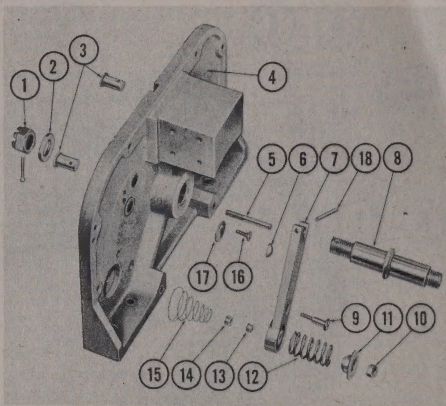

Figure 336—Clutch and Differential Housing
(See figure 336.)—The pull rods on these brake plunger assemblies are held to the brake arms (7) by the lock nuts (10) and adjusting nuts (11), which must first be removed. Remove the brake pull rod plain stop collar (14) and the bevel collar (13), which are located on the pull rods under the brake arms. These collars are carefully fitted for this particular servo unit and should be marked in removal, or placed in a marked
(a) (See figure 336.)—If the brake solenoids have not been removed, remove the two brake tension adjusting nut lock nuts (10), the two knurled brake tension adjusting nuts (11), and the brake tension spring (12) from the brake solenoid plunger pull rods.
(d) (See figure 336.)—Remove the clutch and differential housing end plate assembly from the housing. To remove the plate assembly, it may be necessary to tap on the front end of the differential shaft lightly with a light hammer and wooden dowel so that the differential shaft drive pinion ball bearing will slide out of the plate assembly. In removing the plate assembly, be careful that the brake pull rod plain stop collar (14) and the bevel collar (13), which are inside the brake arm release spring (15) at the lower end of the brake arm (7), do not fall out. These collars are carefully fitted for this particular servo unit